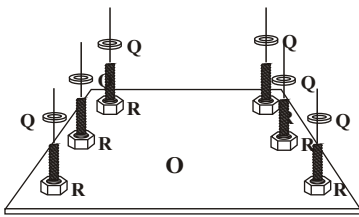

FIGURE 1A
- A. Slide a 18mm Thick Washer (Q) over each of the J-Bolts(N) as shown in FIGURE 1A.